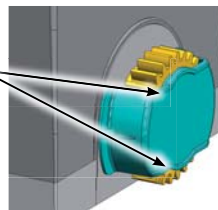

Fig. 10
3. Adjust the height of the gearmotor and the distance from the gate with reference to the dimensions in Fig. 10.